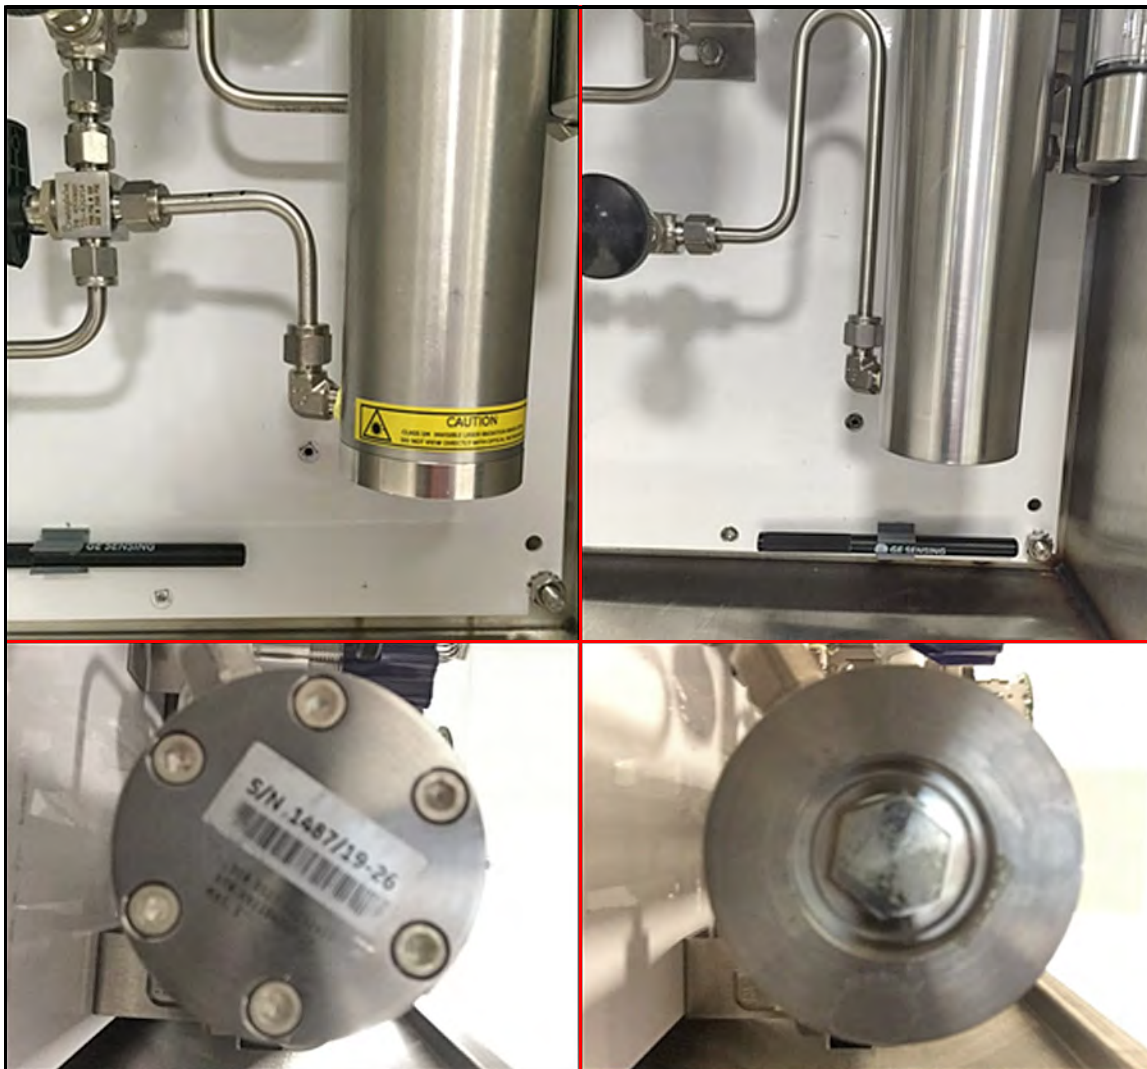

Figure 78: Style 1 (Left) and Style 2 (Right) Optical Absorption Cell/Mirror Assemblies
**Note:** *There are two versions of the Aurora optical absorption cell assembly (see Figure 78 below), each with its own mirror mounting mechanism. The mirror can be removed from the end of this cell for cleaning **WITHOUT DISMOUNTING** the cell. Be sure to follow the correct mirror cleaning procedure for your version of the optical absorption cell assembly.*
**IMPORTANT:** Use the instructions in this section only if you have identified your Optical Absorption Cell as Style 1 in Figure 78 on page 100.
**IMPORTANT:** Use the instructions in this section only if you have identified your Optical Absorption Cell as Style 2 in Figure 78 on page 100.